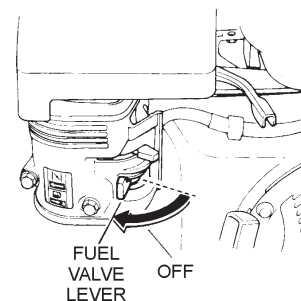

Figure 11. Fuel Valve Lever (OFF)
- Place the **fuel shut-off lever** (Figure 11) in the **OFF** position.